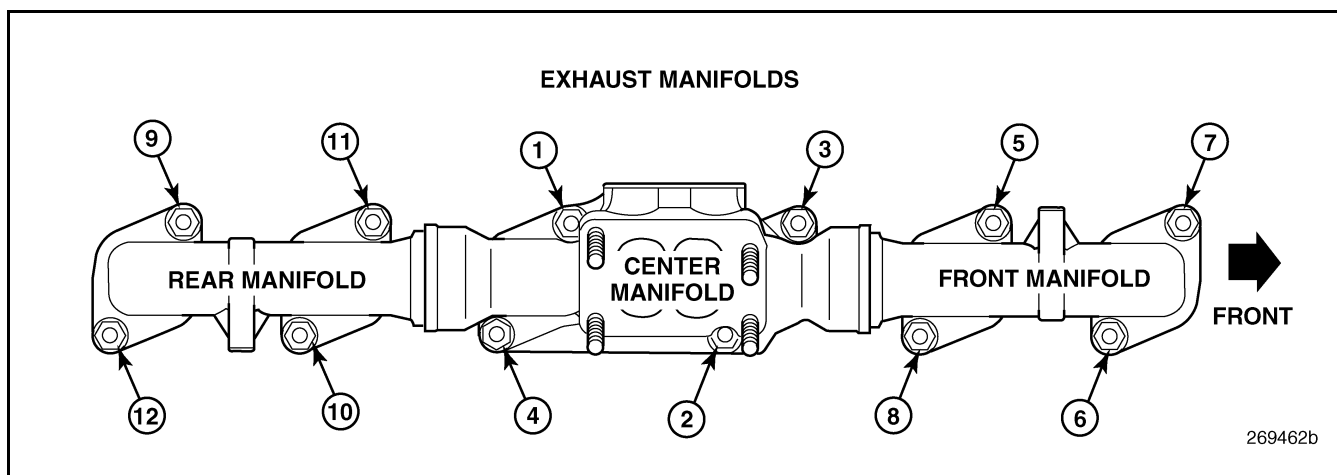

Figure 370 — Exhaust Manifold Tightening Sequence
4. Tighten the nuts in two stages following the sequence shown in Figure 370: